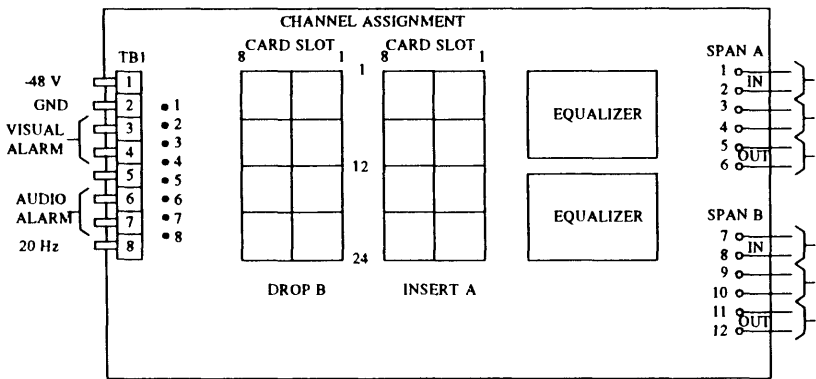

Figure 13-24. Equalizer Location
- Unplug the equalizers, see figure 13-24.